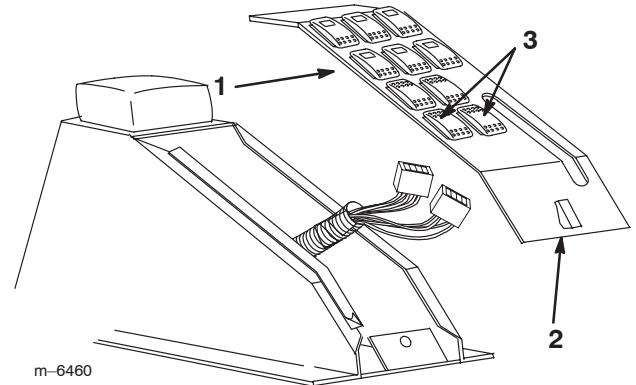

Figure 28
2. Release the latch and remove the switch panel assembly from the center console assembly (Fig. 28).